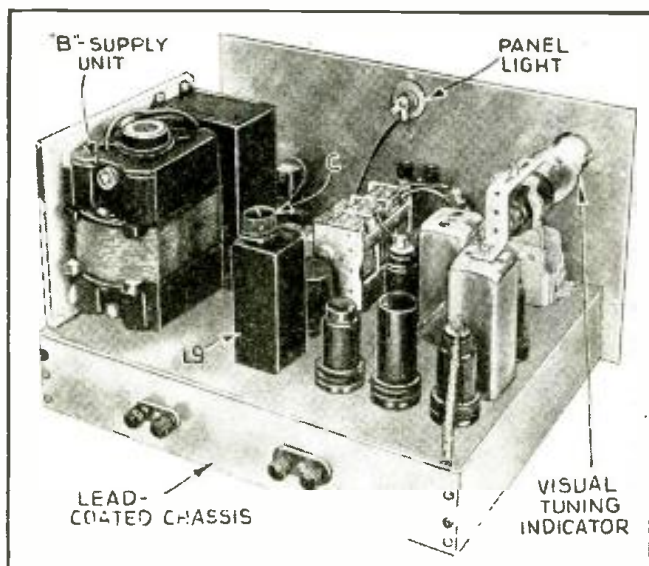

Fig. 3. Rear view showing placement of parts and power pack.
The graphical construction Fig. 3, a and b, shows how the average D.C. value of μE_g and E_p is obtained. The readings on the plate current meter therefore depend on (1) plate resistance, (2) amplification factor, and (3) transconductance.